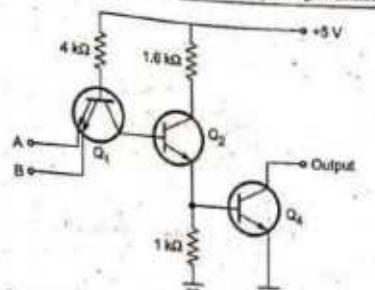

Fig. 3.3.9 Open collector 2-input TTL NAND gate
- Fig. 3.3.9 shows a 2-input NAND gate with an open-collector output. It eliminates the pull-up transistor  $Q_3$ ,  $D_1$  and  $R_3$ . The output is taken from the open collector terminal of transistor  $Q_4$ .